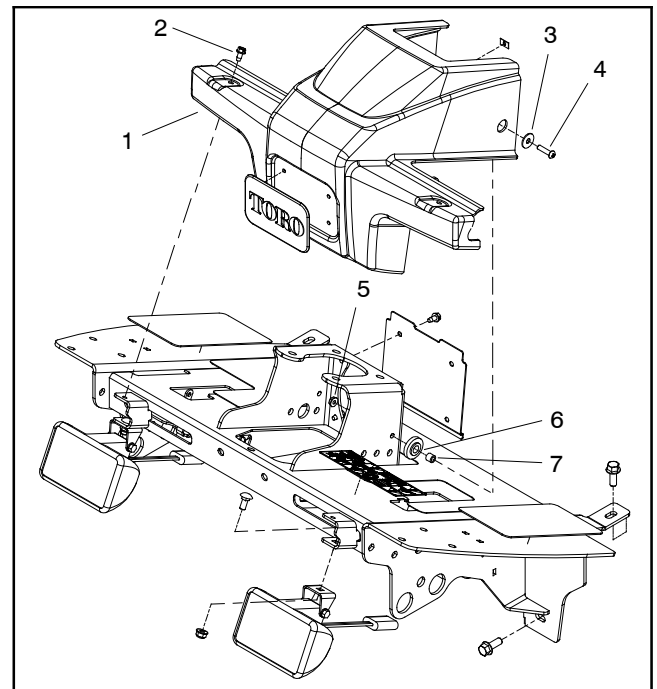
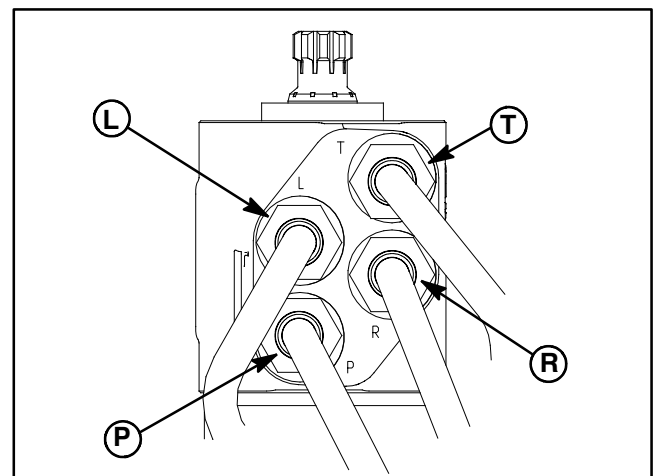

Figure 97
Figure 98
2. Remove fasteners that secure shroud to front of machine (Fig. 97). Remove shroud from machine to allow access to steering control valve. Locate and retrieve two (2) rubber bushings and spacers.
4. Loosen and remove four (4) flange head screws and flange nuts that secure steering column brace (item 13) to machine. Remove brace.
6. Label all hydraulic connections for assembly purposes. Note port designations on steering control valve (Fig. 98). Thoroughly clean hydraulic connections prior to loosening hydraulic lines.
3. Slide steering control valve shaft into steering column universal joint. Position control valve with ports toward front of machine. Secure steering control valve to steering column with four (4) socket head screws. Hand tighten screws in a crossing pattern and then torque screws again in a crossing pattern from **7 to 10 ft-lb (9.5 to 13.5 N-m)**.
4. Position steering column assembly to machine. Secure steering column in place with two (2) flange head screws and flange nuts at rear two mounting holes.
7. Position steering column brace (item 13) to machine and secure with four (4) flange head screws and flange nuts.
9. Place rubber bushings and spacers into holes of shroud (Fig. 97). Position shroud in place and secure with removed fasteners.